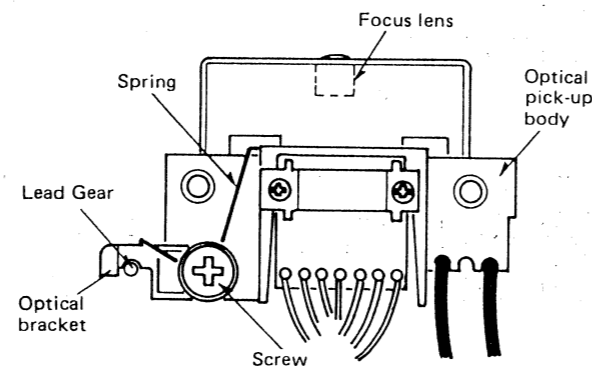

Fig: 2-2. Rear view of optical pick-up body
9. Remove the optical bracket and screw from the optical pick-up body as shown in figure 2-2.